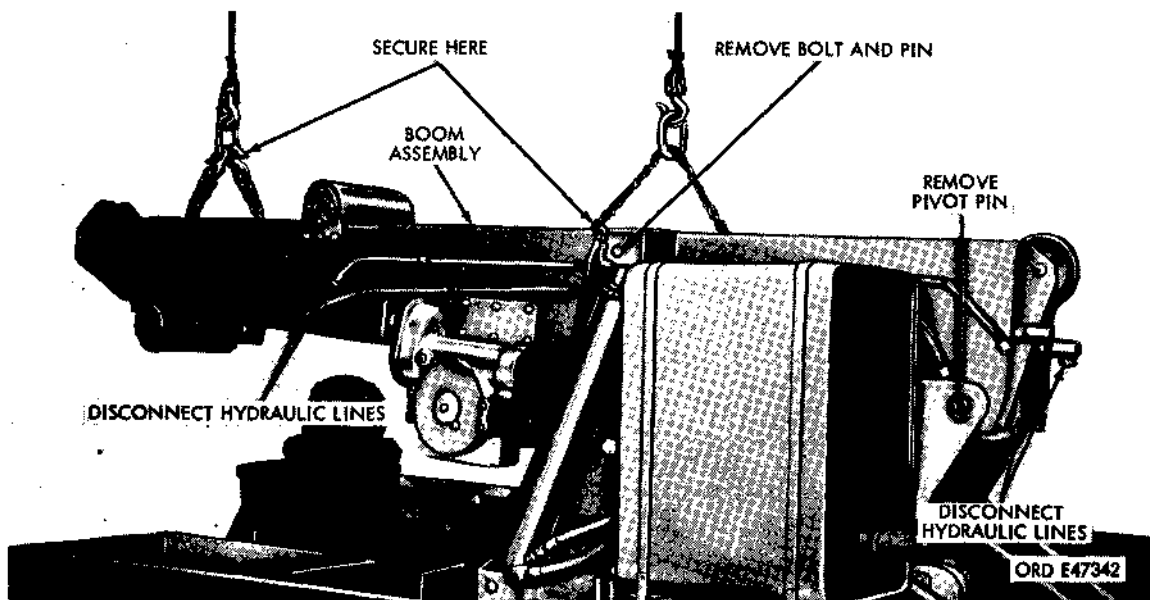

Figure 553. Removing and installing boom assembly.
b. Removal (Fig. 553).
(1) Remove cable from hoist winch drum (refer to TM 9-3220-211-20).
(2) Disconnect hydraulic lines to crowd cylinder and hoist winch hydraulic motor as shown in figure 553.
(3) Disconnect boom floodlight cable at connector (refer to TM 9-2320-211-20).
(4) Attach a suitable lifting device to boom assembly as shown in figure 553.
(5) Remove upper pins from elevating cylinders and remove pivot pin from foot end of boom and turntable. Boom assembly is now free to be lifted from turntable.
(1) Attach a suitable lifting device to boom assembly and lift into position on turntable as shown in figure 553.
(2) Position elevating cylinders and install upper pins to secure elevating cylinders and install pivot pin in foot end of boom securing it to the turntable (fig. 553).
(3) Connect boom floodlight cable to connector (refer to TM 9-2320-211-20).
(4) Connect hydraulic lines to crowd cylinder and hoist winch hydraulic motor as shown in figure 553.
(5) Install cable on hoist winch drum (refer to TM 9-2320-211-20).
per roller assembly and remove assembly (fig. 553).
(4) Remove the six screws securing the lower roller assembly and remove assembly (fig. 553).
(1) Install the upper roller assembly and secure with six screws (fig. 553).
(2) Install the lower roller assembly and secure with six screws (fig. 553).
(3) Install the inner boom (para 423).
(4) Install the boom assembly (para 406).
a. General. The inner boom rolls on two roller assemblies (fig. 553) mounted on the outer boom. These assemblies are identical in design and construction.
(1) Remove boom assembly (para 406).
(2) Remove inner boom (para 423).
(3) Remove the six screws securing the up-